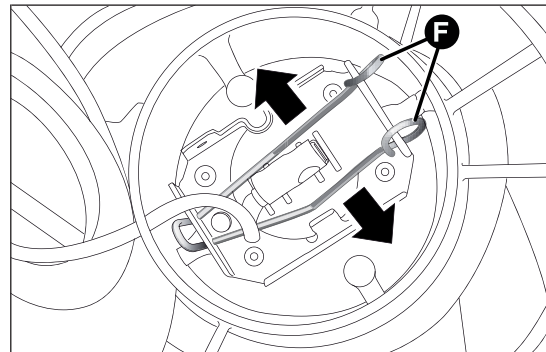

fig. 137
- release the catches F fig. 137 removing them outwards;